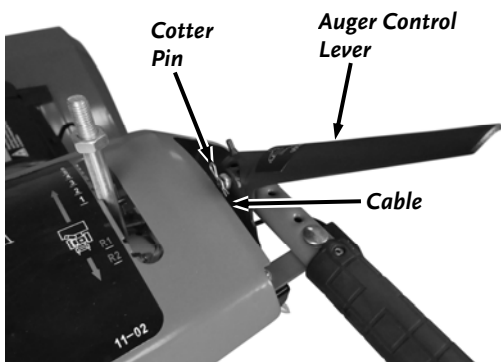

Figure 8
3. Remove the Cotter Pin from the Auger Control Lever and remove the Cable end from the Lever (**Figure 8**).
5. Reinstall the Cable end to the Lever and secure with the Cotter Pin (**Figure 8**).